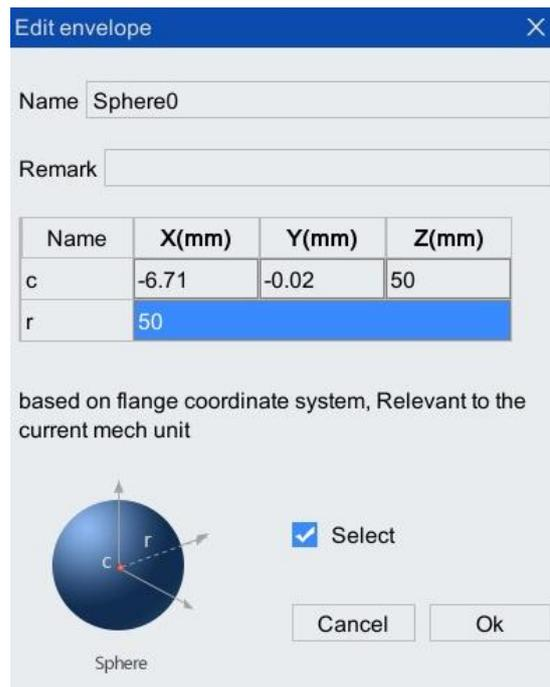

Figure 6-79 Editing interface of tool envelope ball "sphere0"
Step1.Setting of tool envelope. First, set a tool envelope ball named "sphere0" to the tool. The radius of the tool envelope ball is 75mm. For details about center of envelope ball, please refer to Figure 6-79.